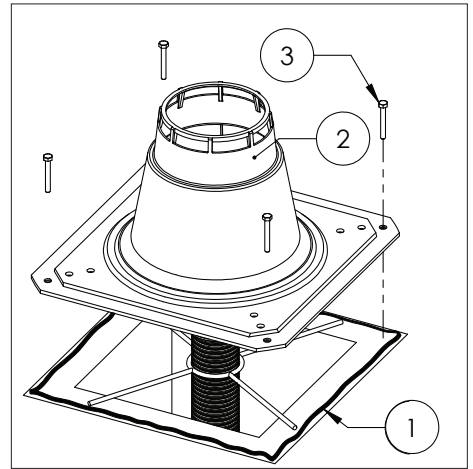

Figure 9, Installing Vent Cap
14. Seal the edge of the chimney shaft with water-resistant sealant (see 1, **Fig.9**) and push the Flex Chimney Flashing (see 2, **Fig.9**) on the shaft and fix it with four masonry anchors (see 3, **Fig.9**).